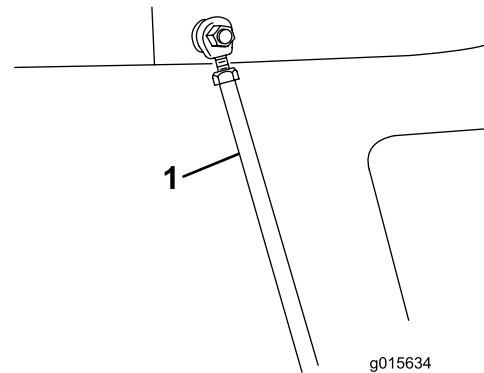

Figure 21
5. Secure the hopper tie rods to the frame with hairpin cotters (Figure 21).